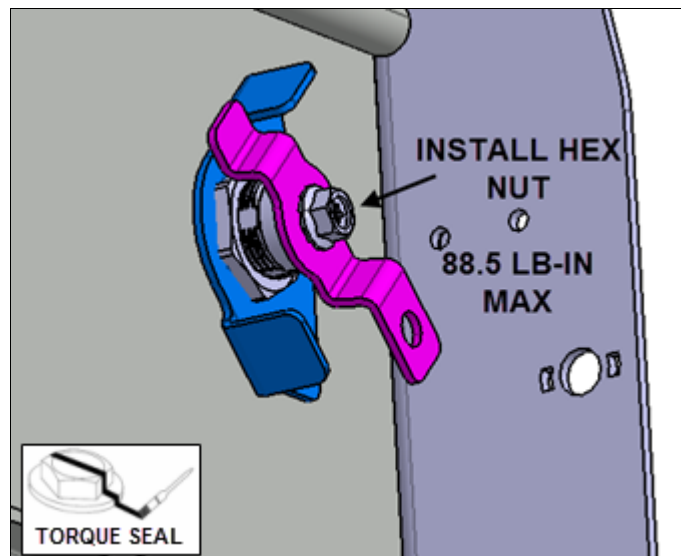

FIG.10 SECURING THE LATCH PLATE
10. Secure the latch using the previously removed hex screw (Fig.10). Max torque **88.5 lb-in** (apply a stripe of tamper proof indicator paint (torque seal) to the screw head).